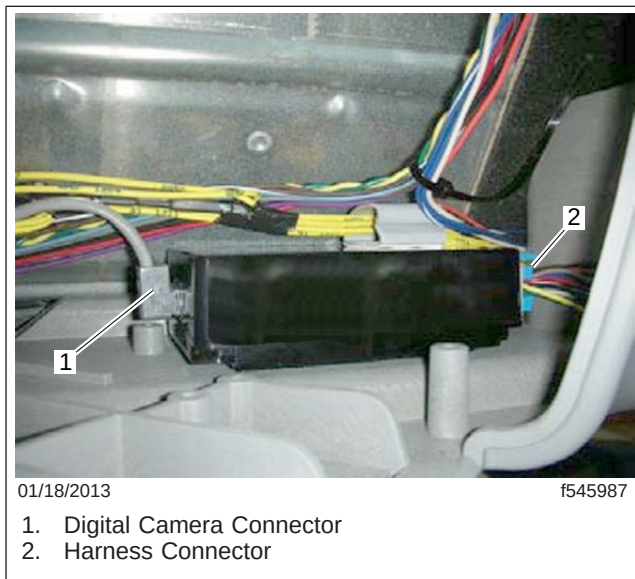

Fig. 1, Lane Guidance ECU
3. Disconnect the harness and digital camera connectors from the ECU. See Fig. 1.